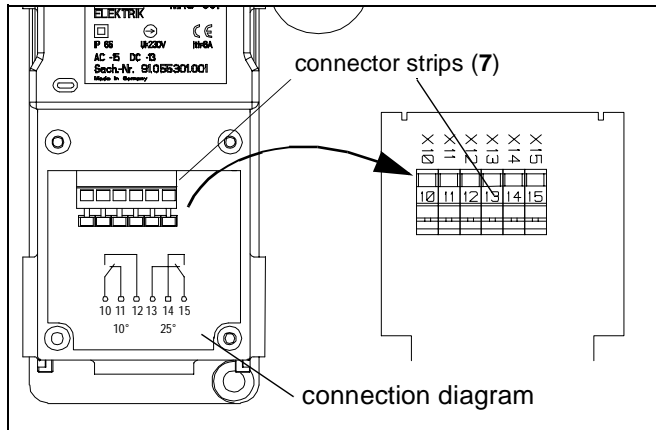

Fig. 5-5: Connecting the misalignment switch
6. Connect the cable to the connector strips (7) according to the connection diagram (s. fig. 5-5).
2. Loosen all electrical connections from the connector strips (7) (s. fig. 5-5).